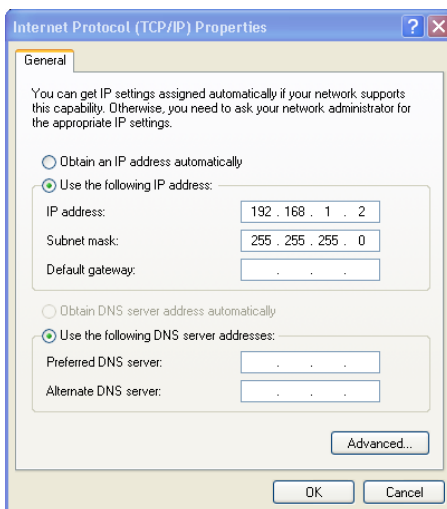

Figure 5: Internet Protocol (TCP/IP) Properties Window
6. Select **Use the following IP Address** and enter the details as shown in Figure 5. You can use any IP address in the range 192.168.1.1 to 192.168.1.255 (excluding 192.168.1.39) that is provided by your IT department.